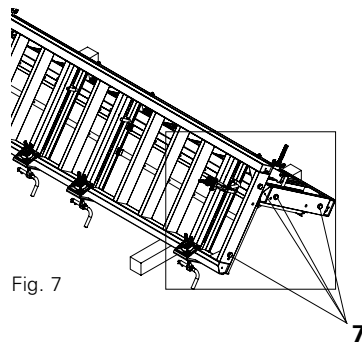

Fig. 7
4. Screw in the four bolts (7) into the drilled holes of the column elements. (Fig. 7)